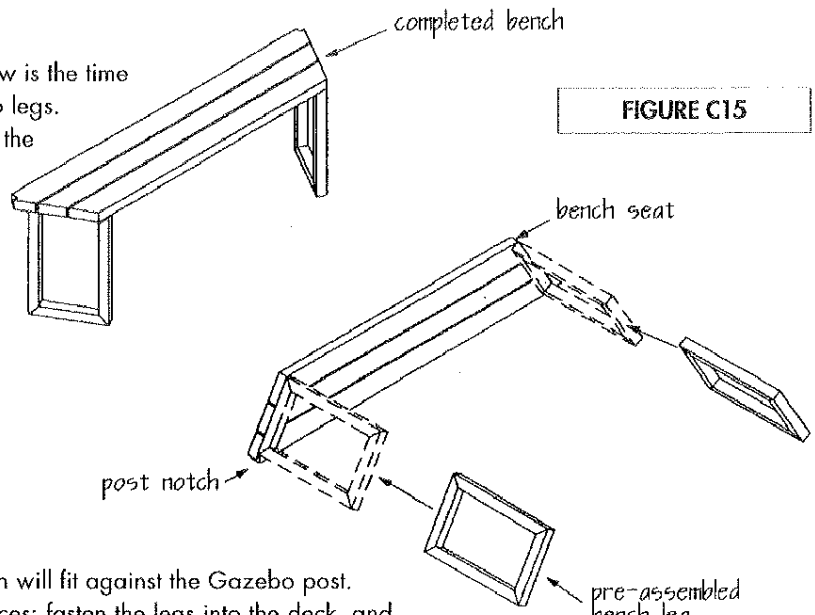

FIGURE C15
1. If you have purchased a bench option, now is the time to install the benches. Each bench has two legs. Attach both sets of legs flush to the end of the bench seat using 2" screws [see Figure C15].